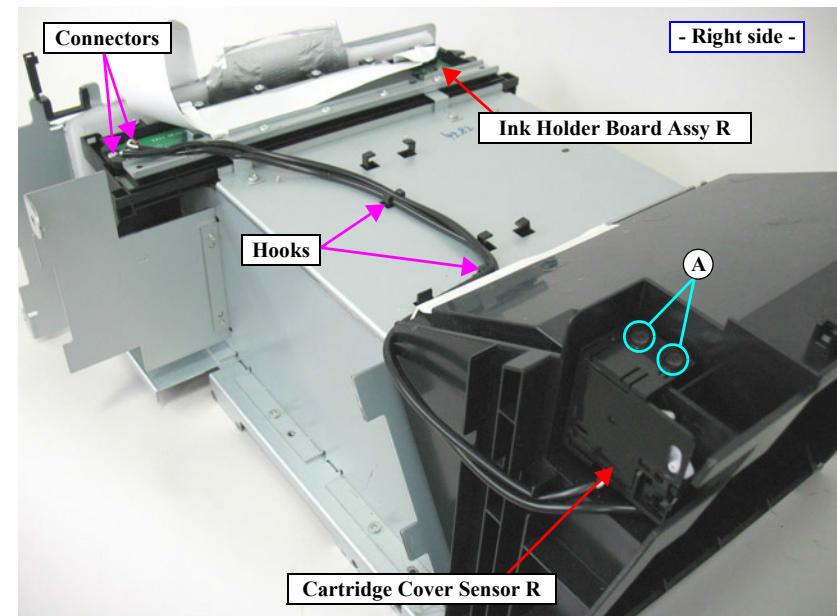

Figure 4-40. Removing the Cartridge Cover Sensor R
9. Release the harness from the two hooks. See Figure 4-40.